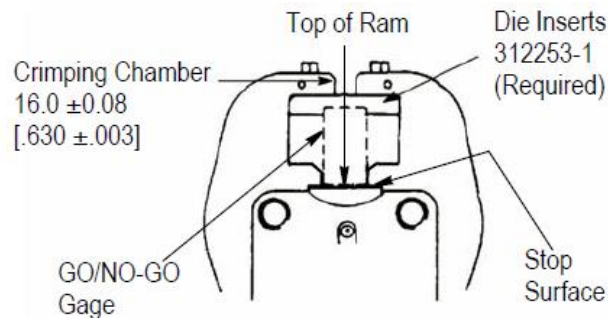

Figure 17b
2. Close the tool handles until the ram touches the stop surfaces (refer to Figure 17b).